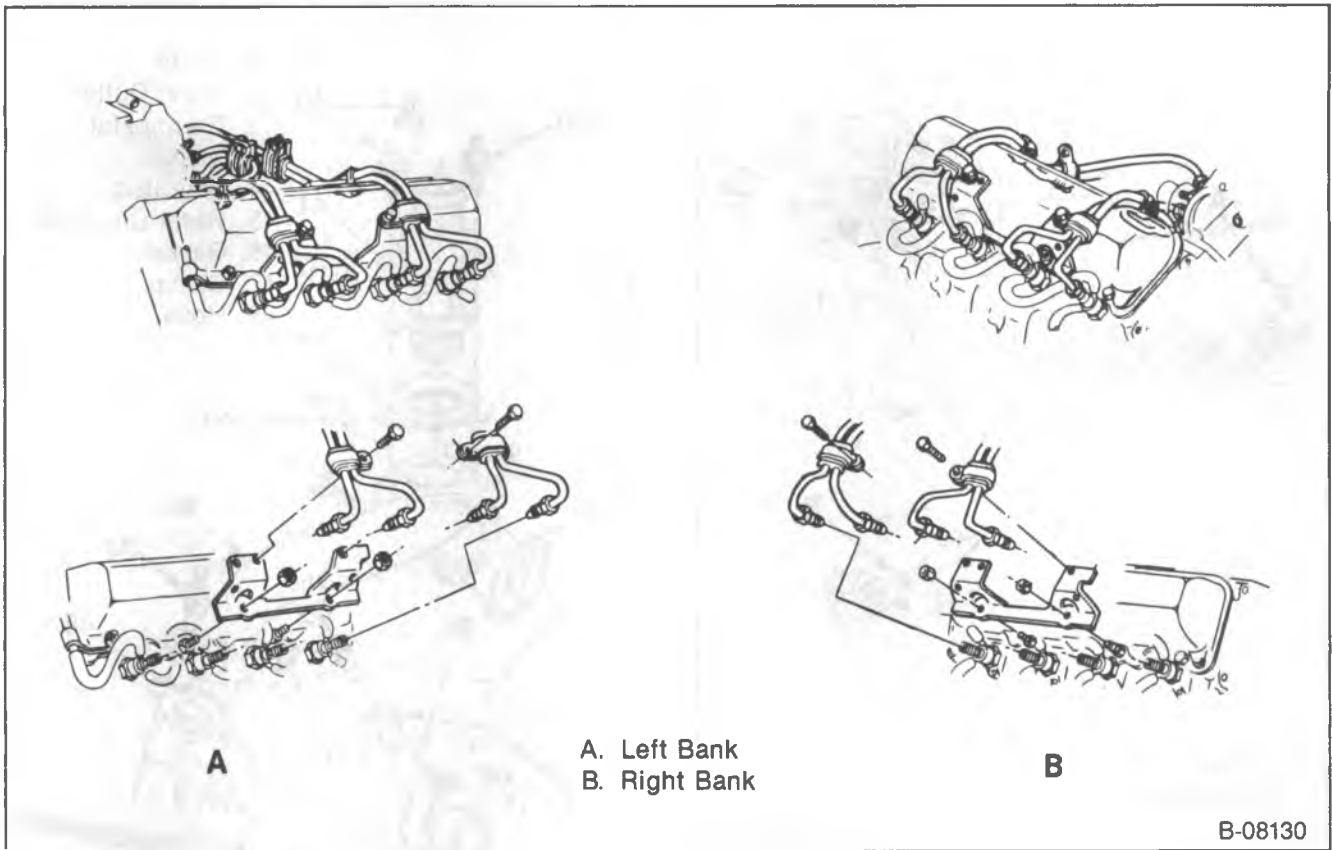

Figure 4—Injection Lines
- ↔ Remove or Disconnect (Figure 4)